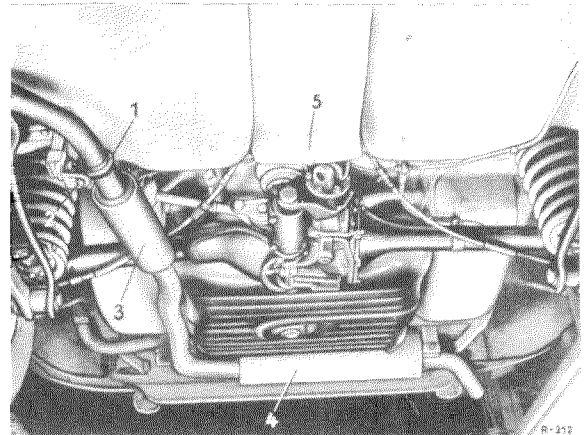

Fig. 42—19/4
20. Clamp down the cable guide (9) in the pulley housing by means of the clamping screw (10) (see Fig. 42—19/2).
22. Check the position of the rubber sleeves on the brake cable and adjust if necessary. The rubber sleeves must fit over the brake cable in the region of the support tubes and the cross strut (Arrows in Fig. 42—19/4).
2. If the brake linings are so worn that the adjustment range of the wing nut is no longer sufficient to adjust the hand brake satisfactorily, the brake cable guide (17) at the equalizer (16) must be advanced by changing the position of the collar bolt (18) (see Fig. 42—19/3).